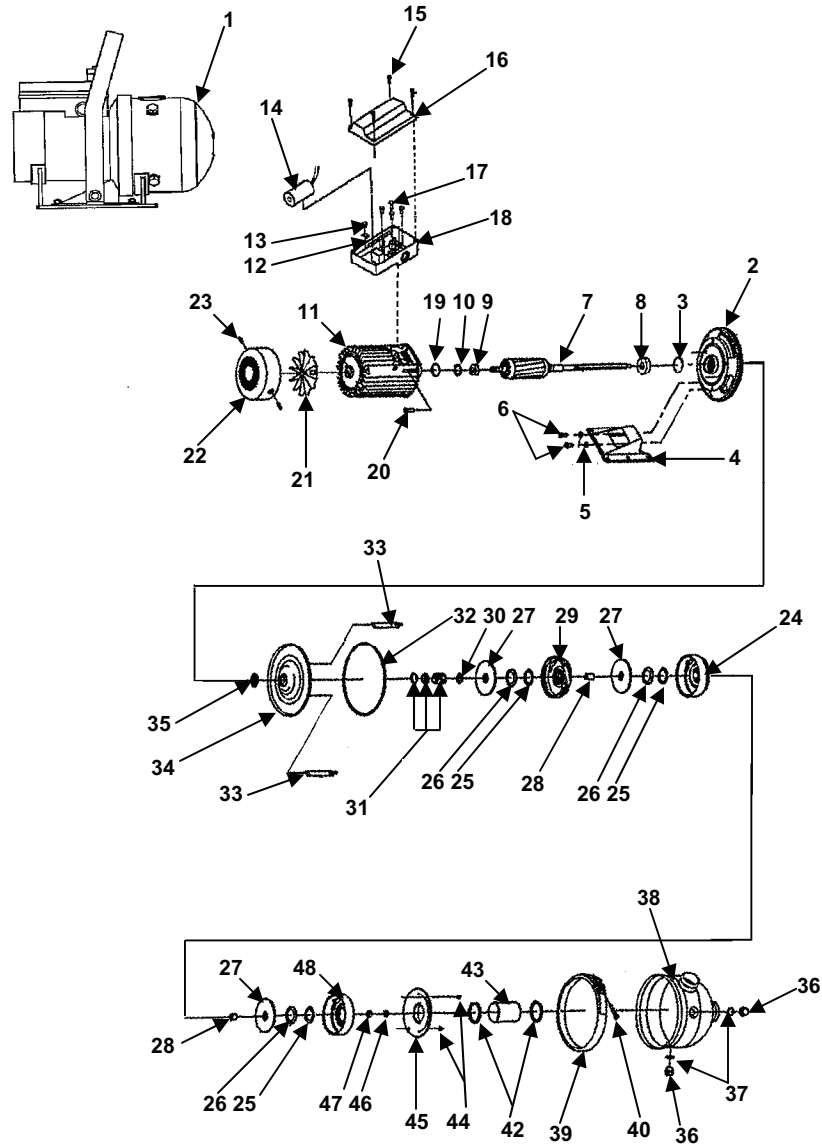

Figure 4. Service Pump (Exploded View)
1. Remove intermediate chamber (Figure 4, item 24), impeller, (Figure 4, item 27), and spacing pipe (Figure 4, item 28) from rotor (Figure 4, item 7) shaft.
2. Remove top intermediate chamber (Figure 4, item 29), impeller (Figure 4, item 27), and spacing pipe (Figure 4, item 28) from rotor (Figure 4, item 7) shaft.
3. Remove top intermediate chamber (Figure 4, item 29) by inserting a screwdriver in a slot on the side of top intermediate chamber (Figure 4, item 29).
4. Remove top intermediate chamber (Figure 4, item 29) from the rotor (Figure 4, item 7) shaft by pushing the shaft of the screwdriver back against cover plate (Figure 4, item 34).
5. Remove rotating shaft seal (Figure 4, item 31) from the rotor (Figure 4, item 7) shaft.
6. Remove the O-ring (Figure 4, item 32), cover plate (Figure 4, item 34), and diverting disc (Figure 4, item 35) from the rotor (Figure 4, item 7) shaft. Discard O-ring (Figure 4, item 32).
1. Position the special puller on neck ring (Figure 4, item 25).
2. Free neck ring (Figure 4, item 25) by pushing the retainer (Figure 4, item 26) free of the intermediate chamber/suction interconnector.
3. Remove neck ring (Figure 4, item 25).
Press the stationary shaft seal (Figure 4, item 31) part way out of the cover plate (Figure 4, item 34) from the motor side.
1. Remove the spacing pipe (Figure 4, item 43).
2. Remove two O-rings (Figure 4, item 42) from pump sleeve (Figure 4, item 38) and suction interconnector (Figure 4, item 45). Discard O-rings (Figure 4, item 42).
1. Remove screws (Figure 4, item 20).
2. Loosen the stator with housing (Figure 4, item 11) with a light blow from a rubber mallet.
3. Remove stator with housing (Figure 4, item 11) from the pump.
4. Determine if O-ring (Figure 4, item 10), capacitor, (Figure 4, item 14), terminal box cover with gasket (Figure 4, item 16), terminal box with gasket (Figure 4, item 18), four screws (Figure 4, item 15), screw (Figure 4, item 13), square washer (Figure 4, item 12) and four terminal box screws (Figure 4, item 17) require disassembly. Discard O-ring (Figure 4, item 10).
5. Observe for corrugated spring (Figure 4, item 19) if installed in this model.
6. Remove two screws (Figure 4, item 6) from base plate (Figure 4, item 4) and motor stool (Figure 4, item 2).
7. Remove base plate (Figure 4, item 4) from stator with housing (Figure 4, item 11). Retain plugs in motor stool (Figure 4, item 2).
8. Retain base plate (Figure 4, item 4) for assembly.
9. Remove O-ring (Figure 4, item 16) from motor stool (Figure 4, item 2). Discard O-ring (Figure 4, item 16).
10. Observe ball bearings (Figure 4, item 8, 9) and rotor (Figure 4, item 7) shaft for damage and discolor. Discard if defective.
1. Always replace shaft locknut (Figure 4, item 31), and all O-rings (Figure 4, item 37, 42, 32, 3, 10)